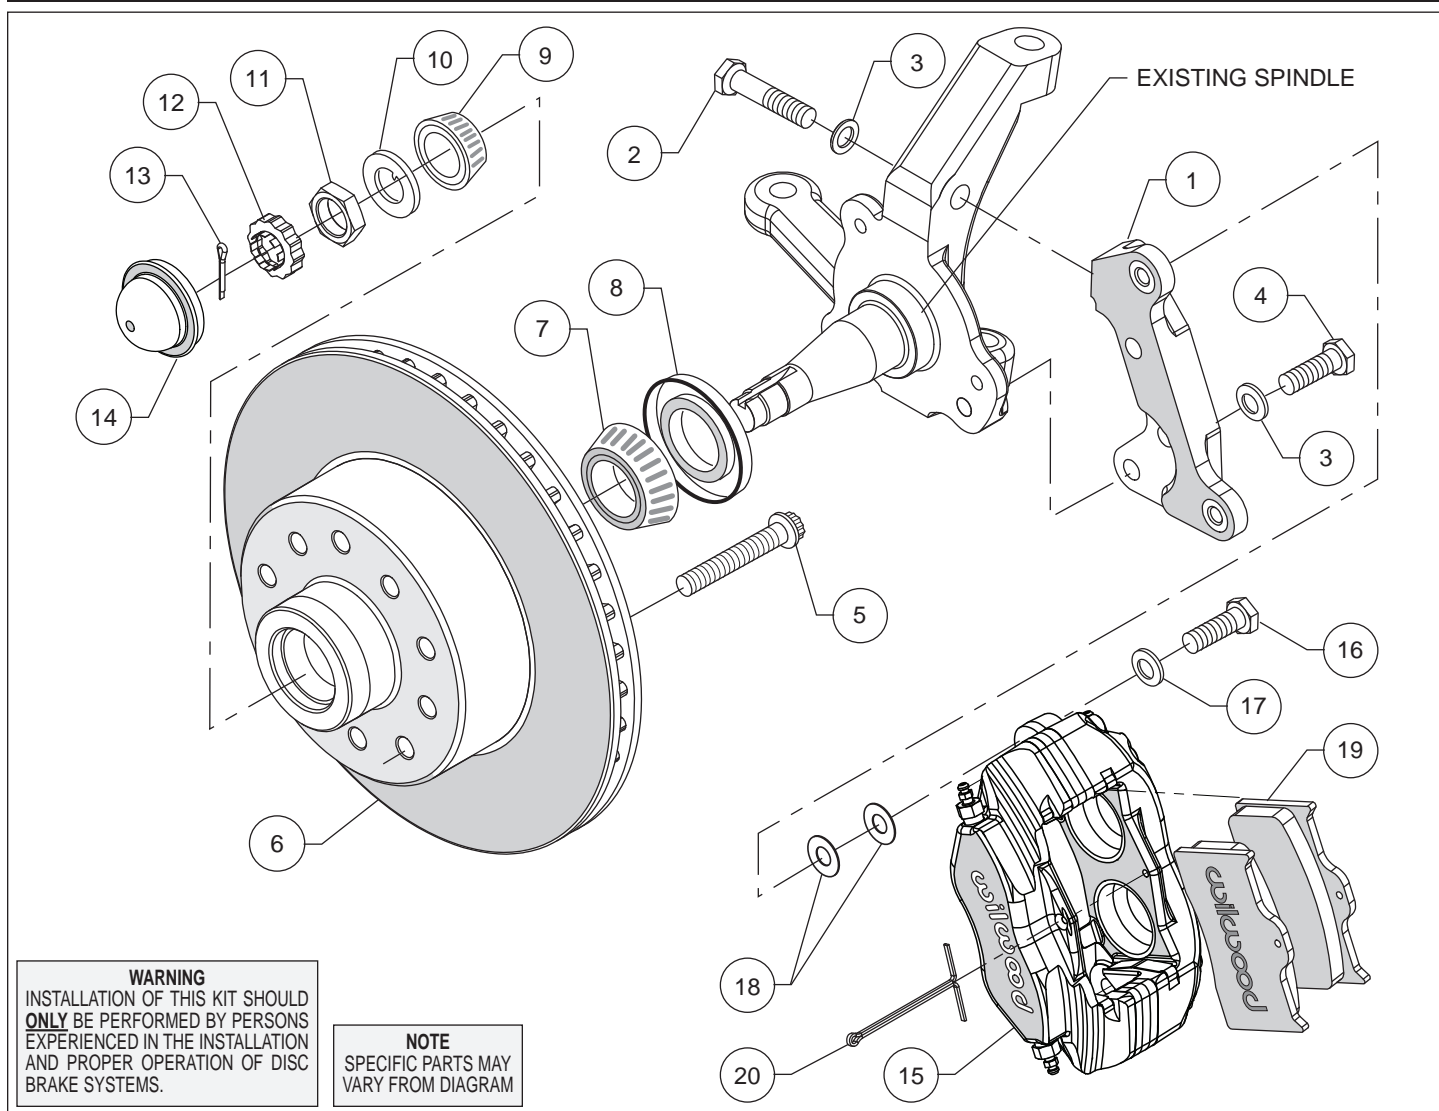
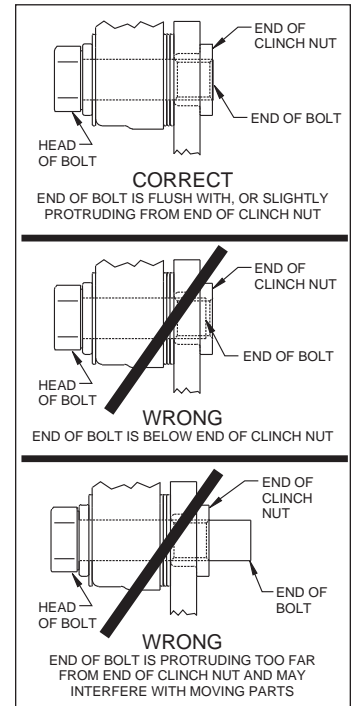

Figure 1. Typical Installation Configuration
Figure 3. Clinch Nut Engagement Diagram
Assembly Instructions (numbers in parenthesis refer to the parts list, on the preceding page and Figure 1): **CAUTION:** All mounting bolts must fully engage clinch nuts. Be sure to check that all bolts are either flush or protruding through flanged side of clinch nut after shimming, Figure 3.
- Orient the caliper mount bracket (1) as shown in Figure 1 and Photo 1, and install using bolts (2/4) and washers (3). Ensure that the flanged heads of the clinch nuts in the bracket are facing outboard, Photo 1. Temporarily tighten the mounting bolts. **NOTE:** The bracket must fit squarely against the mount bosses on the upright. Inspect for interference from casting irregularities, machining ridges, burrs, etc. Remove bolts one at a time, apply red *Loctite*® 271 to the threads and torque to 47 ft-lb.
- NOTE:** Please reference the caution statement at the beginning of the assembly instructions. Mount the caliper (15) onto the caliper mounting bracket (1) using bolts (16) and washers (17), as shown in Figure 1. Initially place two .035" thick shims (18) on each bolt between the caliper and the bracket, Photo 7. Temporarily tighten the mounting bolts and view the rotor (6) through the top opening of the caliper. The rotor should be centered in the caliper, Photo 8. If not, adjust by adding or subtracting shims between the bracket and the caliper. Always use the same amount of shims on each of the two mounting bolts. **NOTE:** The end of each bolt must be flush with or slightly protruding from the head of the clinch nut, as shown in Figure 3. If necessary place spare shims between washer (17) and caliper mounting ear to achieve the proper clinch nut engagement. Once the caliper alignment and clinch nut engagement are correct, remove the bolts one at a time, apply red *Loctite*® 271 to bolt threads, and torque to 40 ft-lb.